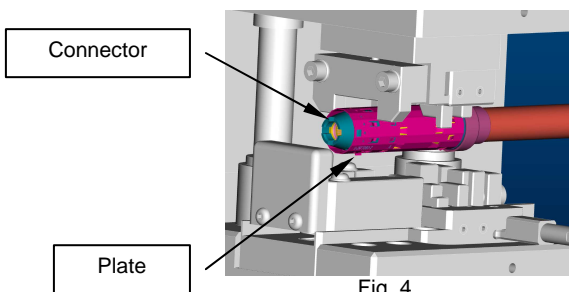

Fig. 4
4. Place the connector sleeve (see Fig. 4) in the groove (see Fig. 5). Push the connector against the stop (see Fig. 6) and place in the tool.